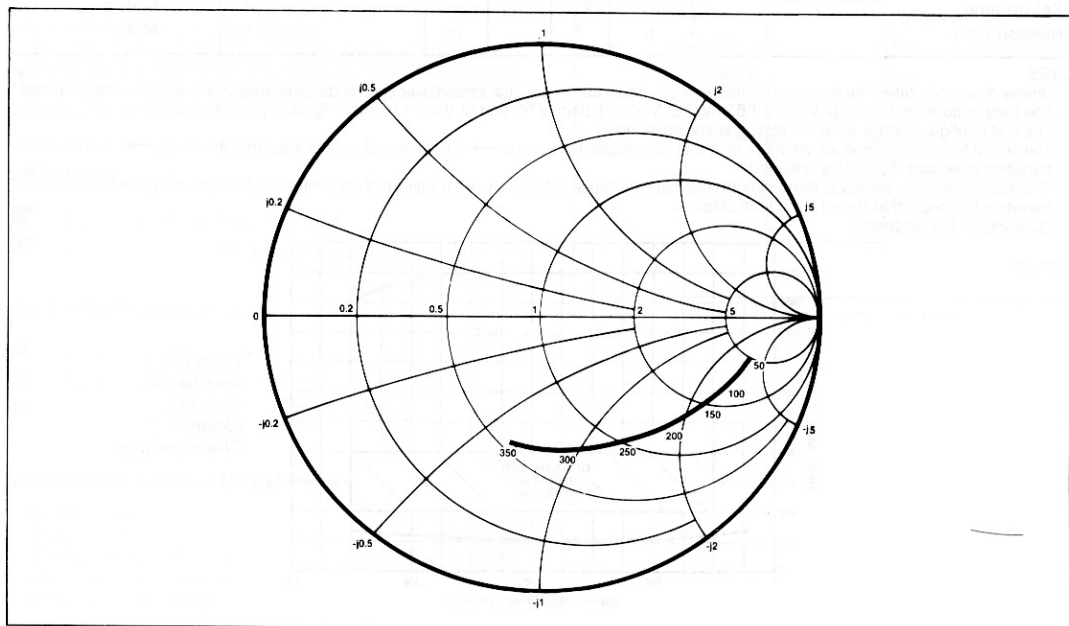

Fig.5 Typical input impedance. Test conditions: supply voltage -5.2V, ambient temperature 25° C, frequencies in MHz, impedances normalised to 50 ohms.
4. Input impedance is a function of frequency. See Fig. 5.